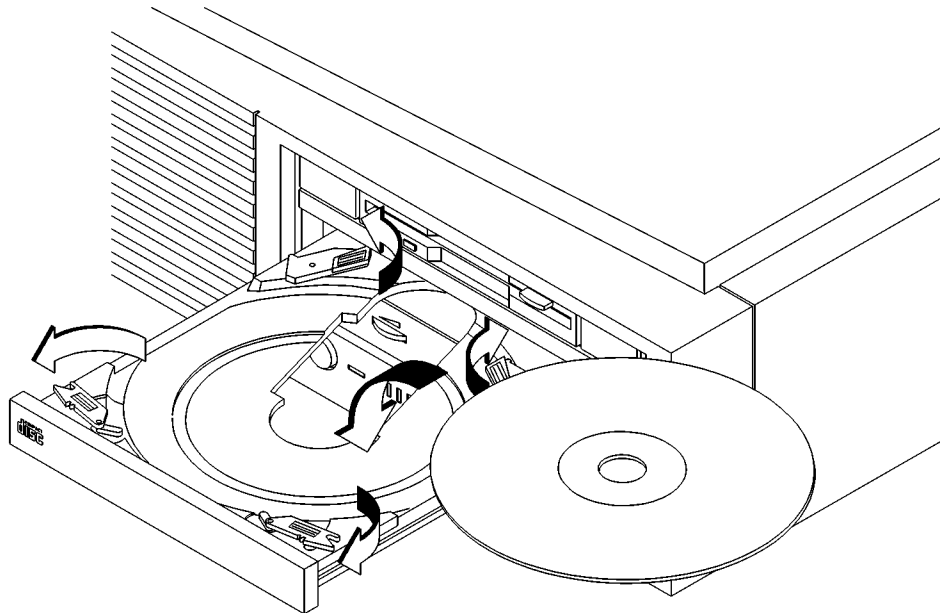

Figure 10
- 4 Hold the disc by the edges with the label side up and place it in the disc tray as shown in Figure 10.